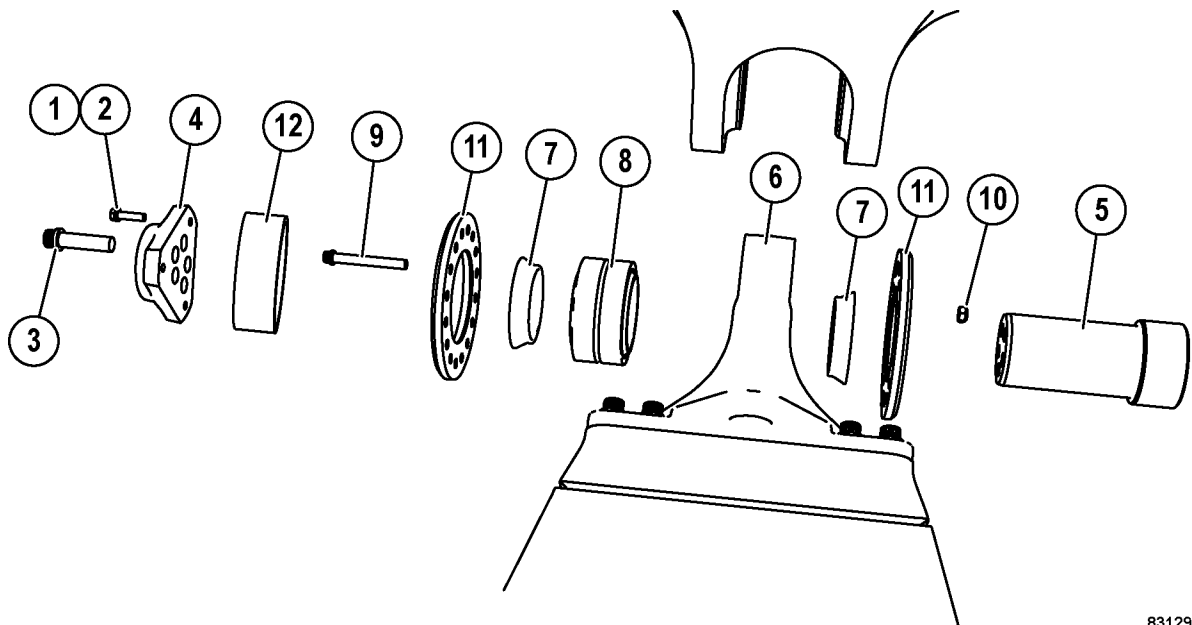

FIGURE 4-1. PIVOT PIN INSTALLATION
9. Remove three capscrews (1, Figure 4-1) and lockwashers (2).
10. Remove five capscrews (3). Remove locking plate (4).
11. Install a puller using the tapped holes in the head of pivot pin (5). Remove pivot pin (5).
1. Remove capscrews (9, Figure 4-1) and locknuts (10).
2. Remove bearing retainers (11).
3. Setup an appropriate tool to press spherical bearing (9) from the pivot eye.
1. Set up an appropriate tool to press spherical bearing (9, Figure 4-1) into pivot eye (6). Make sure that the bearing is centered and properly installed in the pivot eye to allow proper lubrication.
2. Install bearing retainers (11) using capscrews (9) and locknuts (10). Tighten the capscrews to the standard torque.